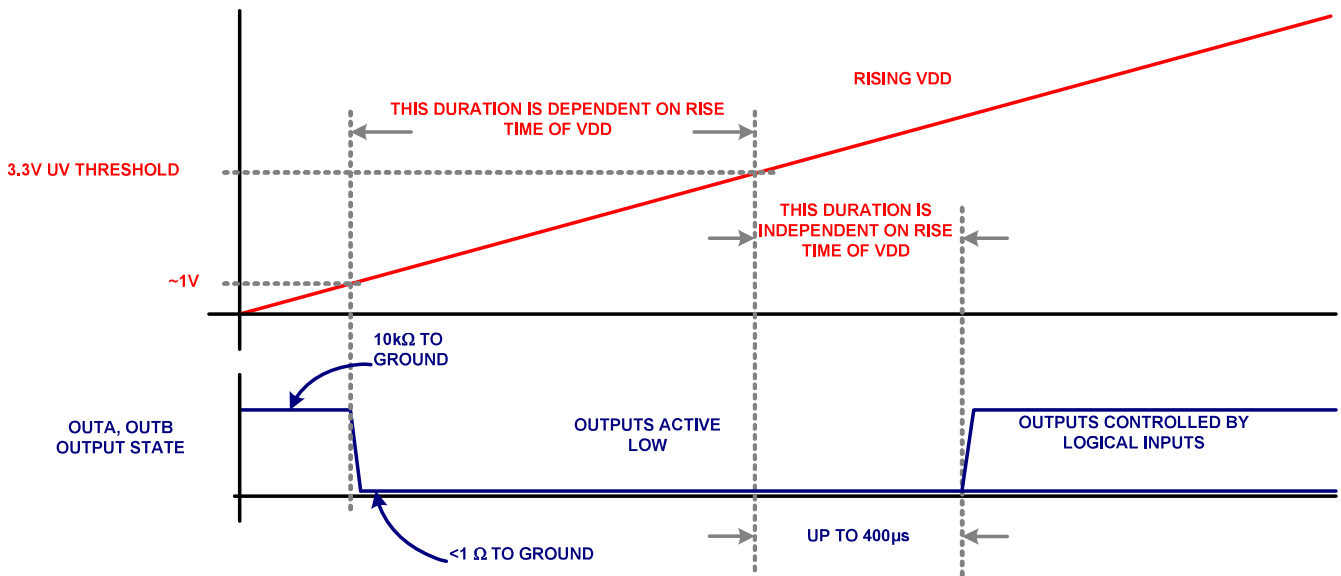

FIGURE 9. START-UP SEQUENCE
- A 400 $\mu s$  delay further inhibits the release of the output state when the UV positive going threshold is crossed. See Figure 9
ground, help to keep the gate voltage close to ground. When  $-1V < V_{DD} < UV$ , both outputs are driven low while ignoring the logic inputs. This low state has the same current sinking capacity as during normal operation. This insures that the driven FETs are held off even if there is a switching voltage on the drains that can inject charge into the gates via the Miller capacitance. When  $V_{DD} > UVLO$ , and after a 400 $\mu s$  delay, the outputs now respond to the logic inputs. See Figure 9 for complete details.